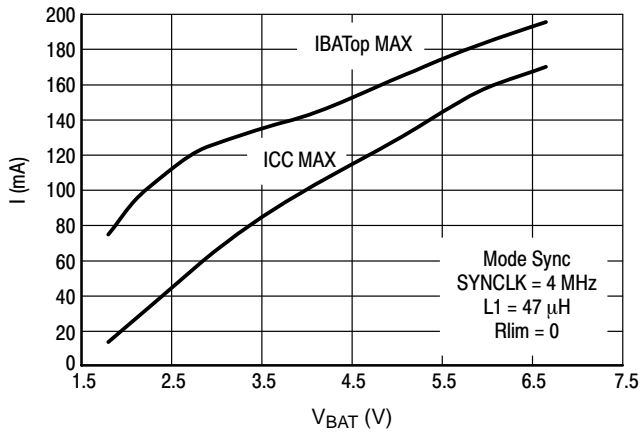

Figure 2. Maximum Battery and Card Supply Current vs.  $V_{BAT}$  ( $V_{CC} = 5.0$  V)
- See Figures 2 and 3.
4. See Figures 2 and 3.